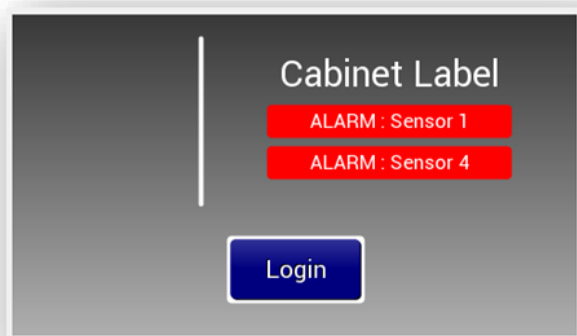

Figure 3
Following the start-up of the system the start screen is displayed (shown in Fig. 3). The start screen contains the name of a specific cabinet and information about any currently active alarms.
- **Open** – causes the handles on the front and rear of a cabinet to open and then automatically moves you to the start screen (Fig. 3) after the handle opening time has elapsed,